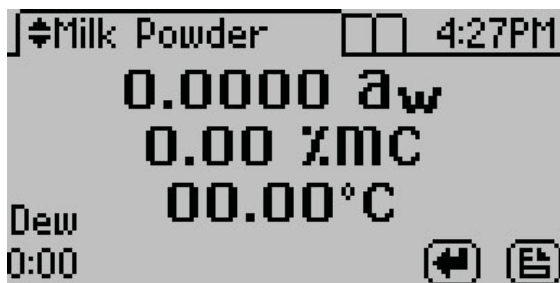

Figure 4 Measurement screen for AQUALAB DUO Milk Powder product model
2. For AQUALAB DUO instruments (Section 2.5), use the **UP** and **DOWN** buttons to scroll through all available product models that may be used (Figure 4).